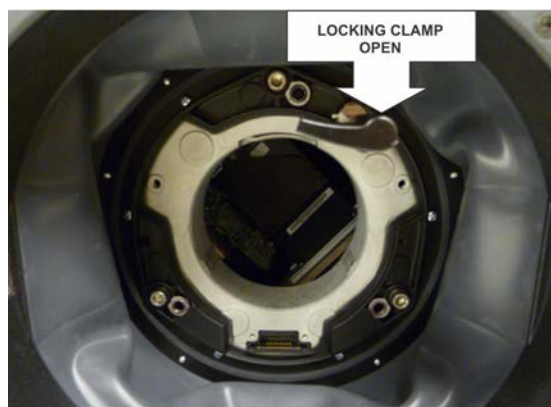

FIGURE 2-1
1. Rotate the lens clamp to the OPEN position, see Figure 2-1.